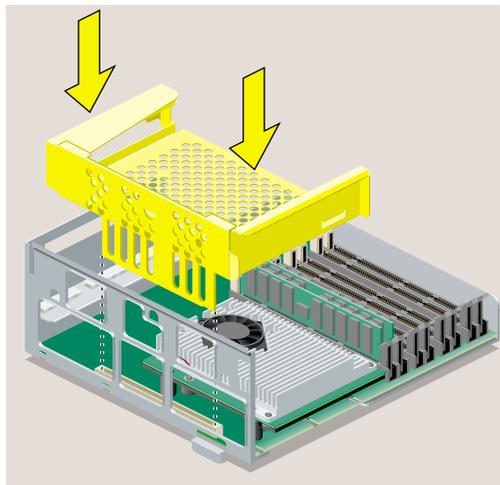

Figure 12 Replacing the PCI Tray in the R12000A System Module
- Lower the PCI tray, engaging it on the metal rear panel of the system module (Figure 12).